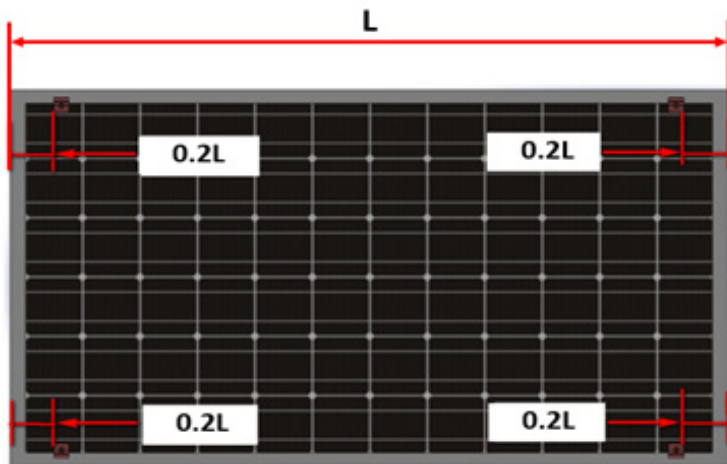

Fig. 33
2. Please refer to the PV module installation instruction to confirm the clamping zones. It is recommended that the installation position of Module Clamp 40 from the PV module end to the clamps is 20% of module length (if not conflicted with the clamping zone of panels) as shown in Fig 33.